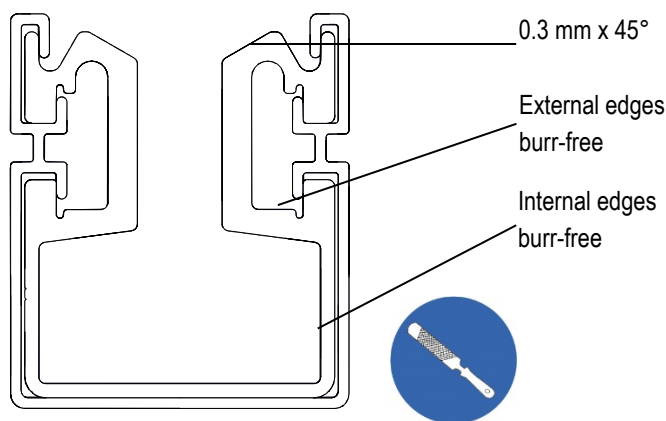

Fig. 35: ProfiDAT® profile burr-free
- After cutting the aluminum rail, make a chamfer of max. 0.3 mm x 45° on the aluminum rail with a key file (see Fig. 35). This is important to prevent wear of the sliding contact! Remove burrs from all other sharp edges with a key file!